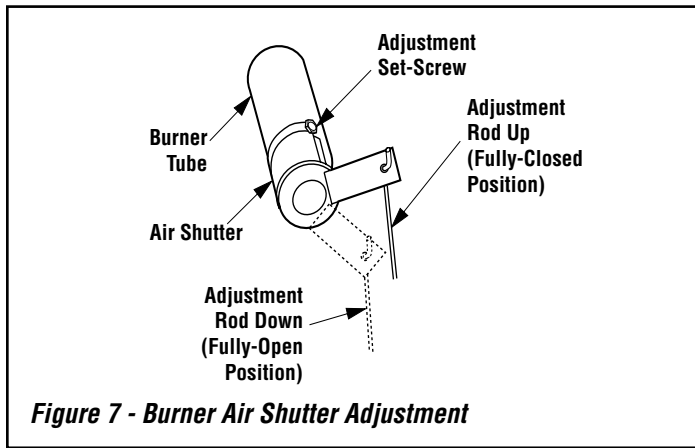

Figure 7 - Burner Air Shutter Adjustment
Step 8. 40" and 45" Gemini-C models ONLY - Remove the air shutter adjustment screw (*Figure 7*) and remove the air shutter (1/4" nut driver/socket) from burner. Use air shutter rod from removed air shutter and place on new shutter provided in this kit. Install new shutter assembly on burner. Discard the removed air shutter.
Step 9. Retrieve the burner and hold the venturi tube above the orifice. Place the shutter adjusting rod in the slot of the shutter arm (*Figure 7*). Set the burner assembly into its position and secure using two screws and three flat tipped screws in the burner.
Step 14. Adjust the burner air shutter per instructions in the Installation and Operation manuals and **Table 2 and Figures 7 and 8.**
1. Adjust the air shutters per instructions in **Figure 7 and Table 2.**
Step 15. Relight the main burner. The lighting instructions can be found on the lighting label in the control compartment. Verify proper burner ignition and operation (**Figure 7**).